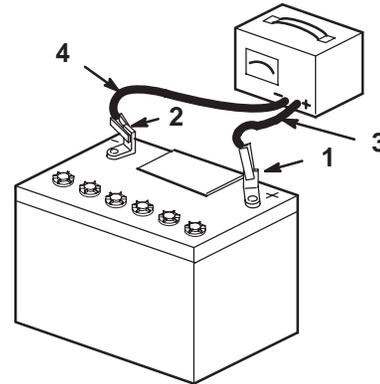

Figure 26
3. When the battery is fully charged, unplug the charger from the electrical outlet, then disconnect the charger leads from the battery posts (Fig. 26).